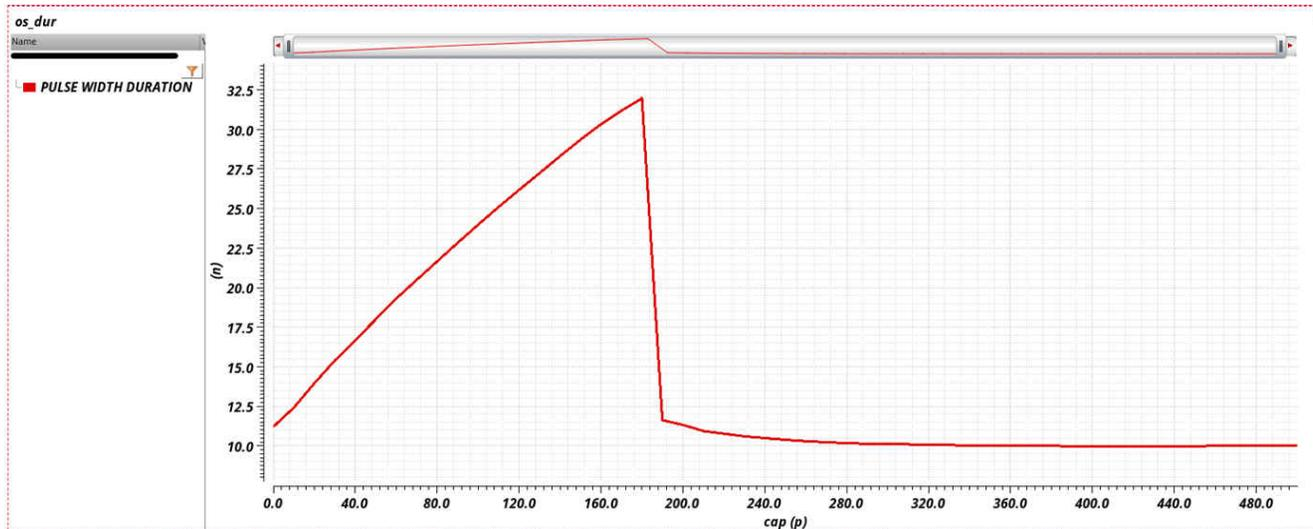

Figure 2-1. Example of the one-shot timing out before reaching the designed duration.
- Figure 2-1 shows the one-shot expiring at about 200 pF.